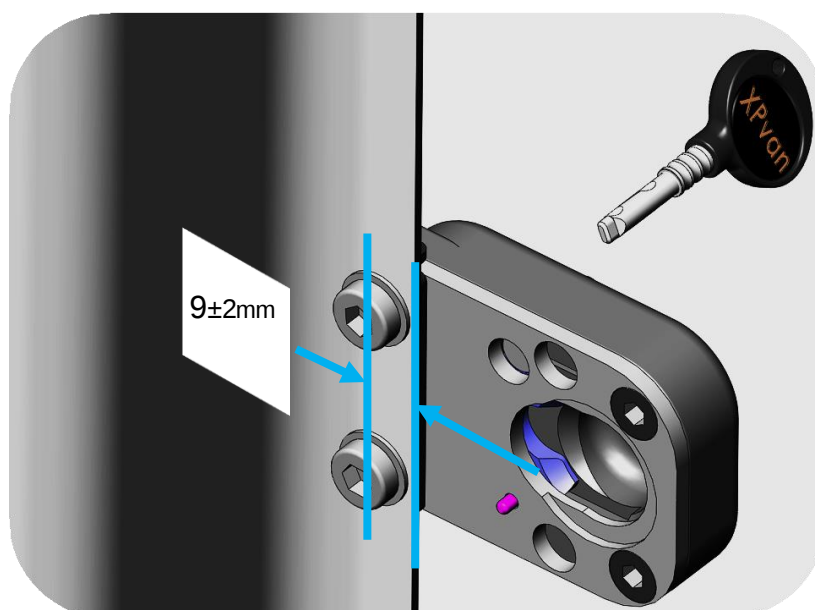

Fig.5
- The position of the two 8 holes is approximately 9 ± 2 mm from the vertical edge of the door that opens (vedi fig.5). It is the strongest surface of the door. The indicated tolerance is used to allow the positioning of the cylindrical head of the M8 pin within the edge and never beyond it. .
The lock body fixing normally foresees the holes on the extreme edge of the tailgate using the two M8 pins with button head. Before drilling, check that the head of the M8 pin is contained in the edge (see fig. 5).